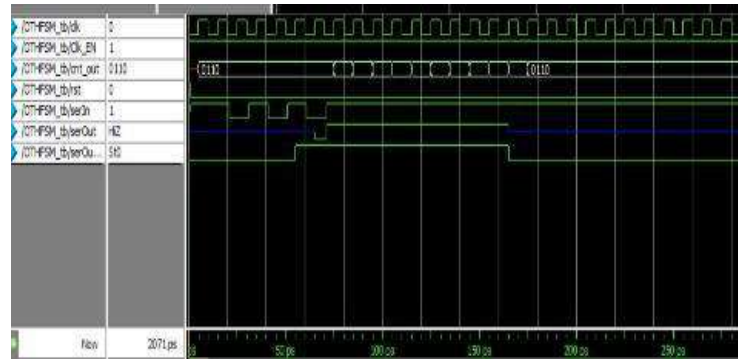

Fig. 10 ModelSim output for OTHFSM testbench
3) *Testing the design:* The designed testbench as depicted in Fig. 11 will show the correctness of the design. ModelSim output is demonstrated in Fig. 10.